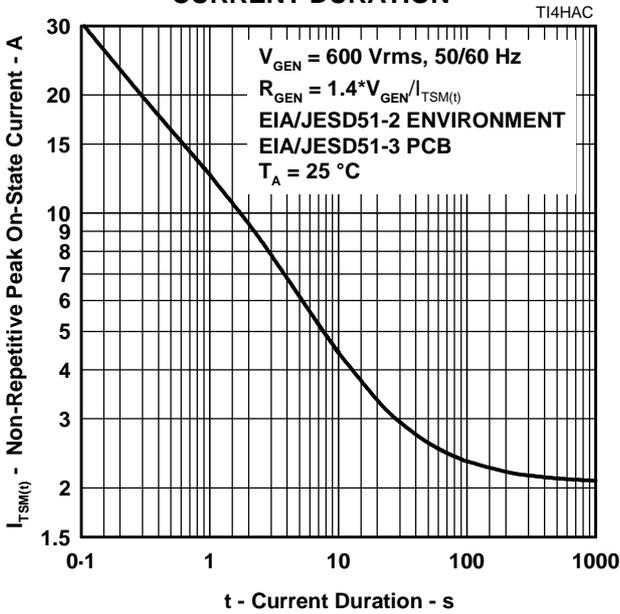

Figure 7.
5. EIA/JESD51-2 environment and EIA/JESD51-3 PCB with standard footprint dimensions connected with 5 A rated printed wiring track widths. See Figure 7 for the current ratings at other durations. Derate current values at $-0.61\%/\text{C}$ for ambient temperatures above 25°C
The protector can withstand currents applied for times not exceeding those shown in Figure 7. Currents that exceed these times must be terminated or reduced to avoid protector failure. Fuses, PTC (Positive Temperature Coefficient) resistors and fusible resistors are overcurrent protection devices which can be used to reduce the current flow. Protective fuses may range from a few hundred milliamperes to one ampere. In some cases it may be necessary to add some extra series resistance to prevent the fuse opening during impulse testing. The current versus time characteristic of the overcurrent protector must be below the line shown in Figure 7. In some cases there may be a further time limit imposed by the test standard (e.g. UL 1459/1950 wiring simulator failure).